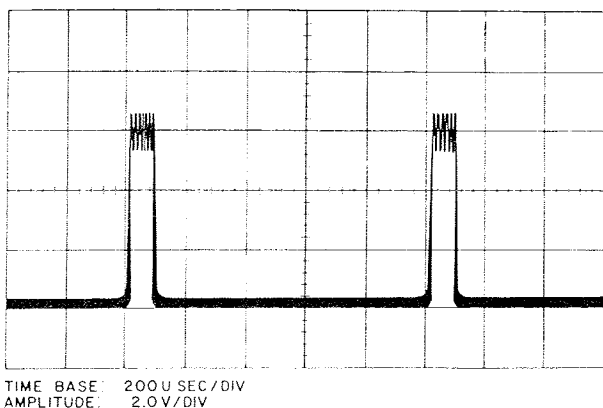

Figure 6.21 – Q19, Emitter Waveform
o. Reconnect oscilloscope to emitter of keyed oscillator Q19 (or left end of R57). The observed 1 kHz waveform should resemble the one shown in figure 6.21.